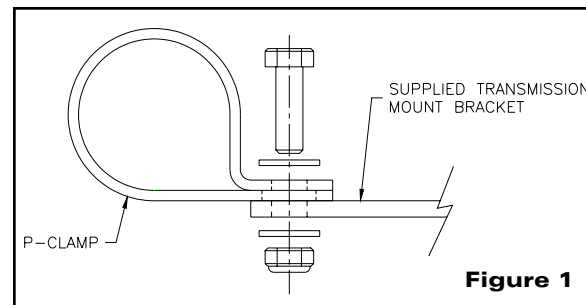

Figure 1
7. Align the P-clamp to the supplied transmission mount point and install supplied 5/16"x1" bolt with flat washers and nylock nut (supplied). (**See Figure 1**)